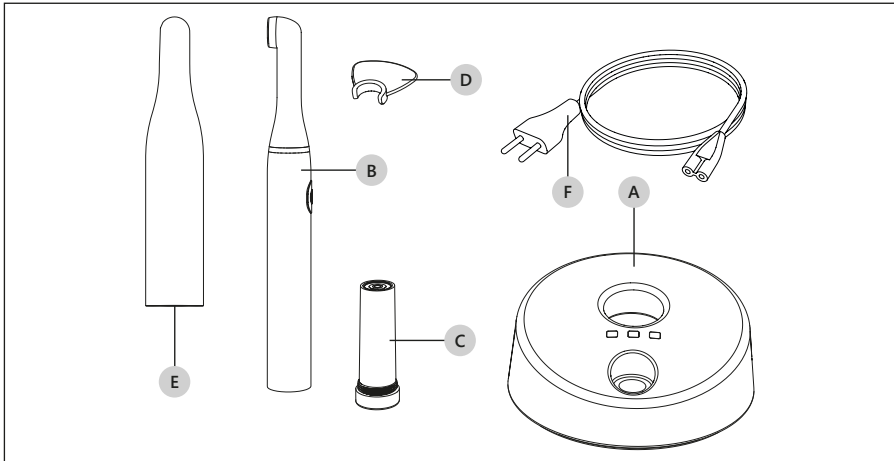
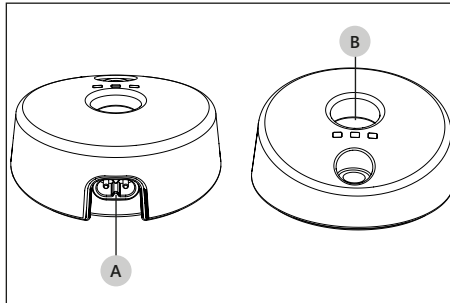

Figure 5 – List of Components
Figure 6 – Charging unit.
**ⓘ CAUTION: Recharge the battery only with the Mectron charging unit (*Figure 5 at page 8 - Ref. A*). Do not attempt to recharge the battery using a generic battery charger. This entails a risk of explosion and fire.**
Refer to Figure 5 at page 8:
**⚠ WARNING:** Do not introduce metal objects into the handpiece housing in the charging unit (Figure 6 at page 10 - Ref. B) when the device is on.
2. Plug the power cable (Figure 5 at page 8 - Ref. F) into the connector on the back side of the charging unit (Figure 6 at page 10 - Ref. A) and then into the power outlet. The green power LED should light up (Table 1 at page 11 - Ref. A).
1. Place the handpiece into its housing in the charging unit (Figure 6 at page 10 - Ref. B). The yellow battery LED will light up (Table 1 at page 11 - Ref. B).
1. Place the handpiece into its housing in the charging unit (Figure 6 at page 10 - Ref. B). The yellow battery LED will light up (Table 1 at page 11- Ref. B).
**⚠ CAUTION:** Recharge the battery only with the Mectron charging unit (Figure 5 at page 8 - Ref. A). Do not attempt to recharge the battery using a generic battery charger. This entails a risk of explosion and fire.